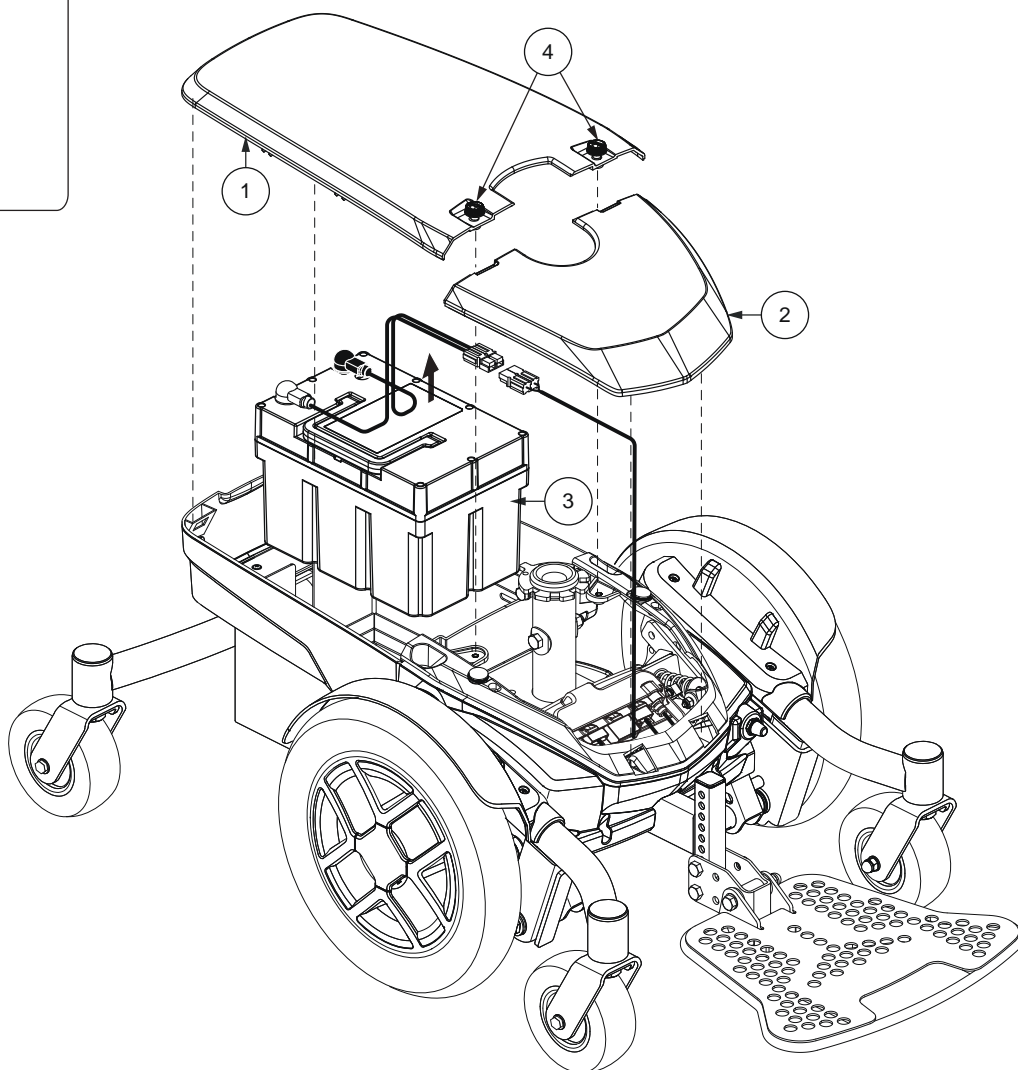

Figure 25. Lithium Battery Installation (Seat Removed for Clarity)
5. If equipped with two (2) SLA batteries, disconnect the rear battery harness from the power base and remove the battery. Slide the front battery rearward, disconnect the front battery harness from the power base, and remove the front battery. **See figure 24.** If equipped with a lithium battery, disconnect the battery harnesses and remove the battery. **See figure 25.**
8. For installation of a new lithium battery, place the battery into the power base. Make sure that the terminals are facing the rear of the power base. **See figure 25.** Connect the rear battery harness to the power base.